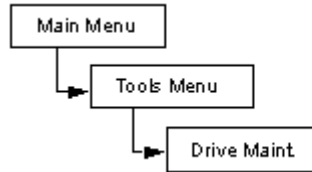

Figure 38. Drive Maint.
3. From the Tools menu, select Drive Maint (see Figure 38). Press the Action button.